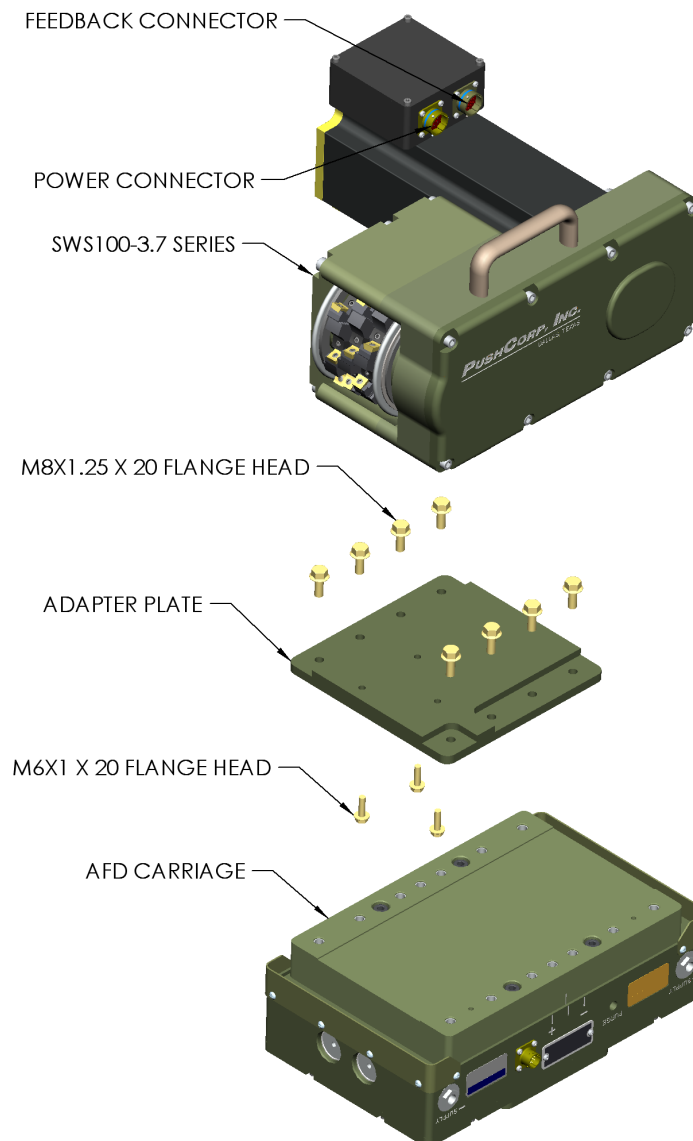
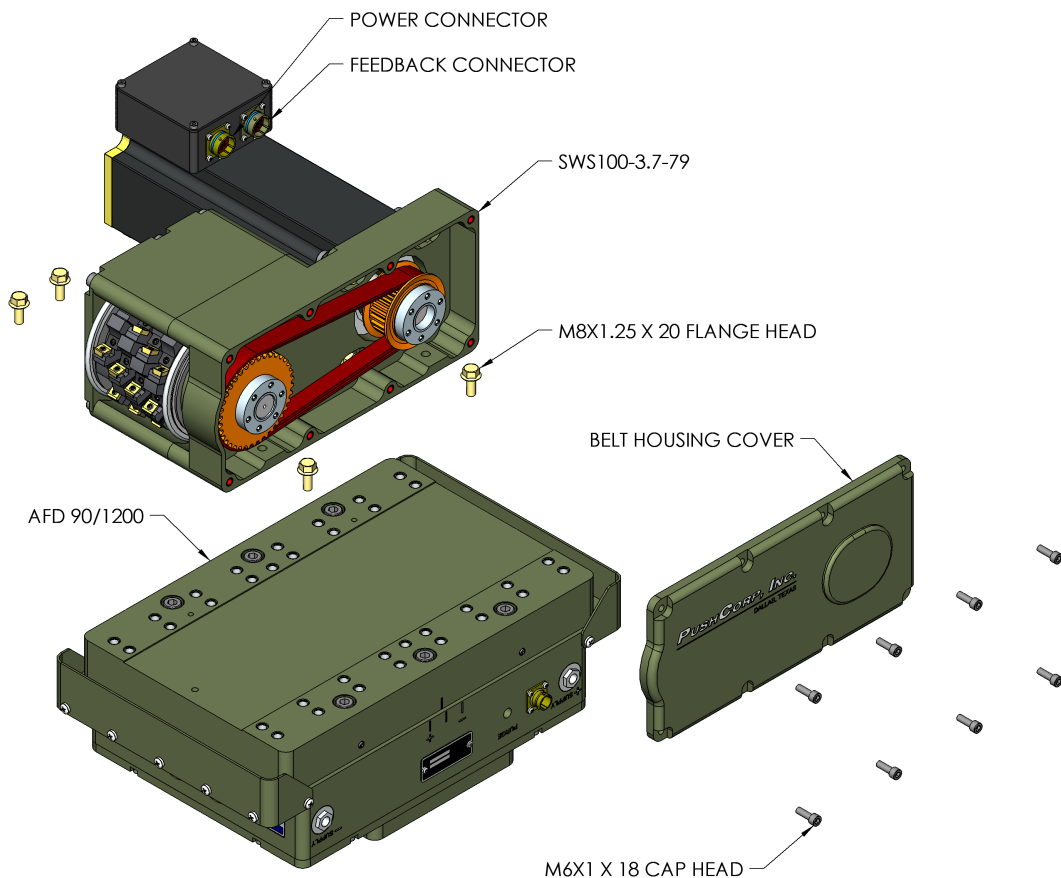

Figure 1. Mounting the SWS100-3.7-20, SWS100-3.7-39 and SWS100-3.7-59
Figure 2. Mounting the SWS100-3.7-79mm
The SWS100-3.7 Series Weld Shavers are designed to be attached to the carriage of a *PushCorp* AFD1100/80 via an Adapter Plate (SWS100-3.7-20mm, SWS100-3.7-39mm, SWS100-3.7-59mm). The SWS100-3.7-79mm is designed to bolt directly to an AFD1200/90 Adjustable Force Device. Figure 1 and Figure 2 below illustrate how these units are mounted to the AFD Carriage.
The SWS100-3.7 attaches to the AFD Carriage with M8x1.25 flange-head fasteners provided by *PushCorp*. Refer to Figure 1 and Figure 2 for the proper location of the fasteners.
1. Remove the (8) eight M6x1 Socket Head Cap Screws securing the Belt Cover to provide access to the Drive Belt. See Figure 2.